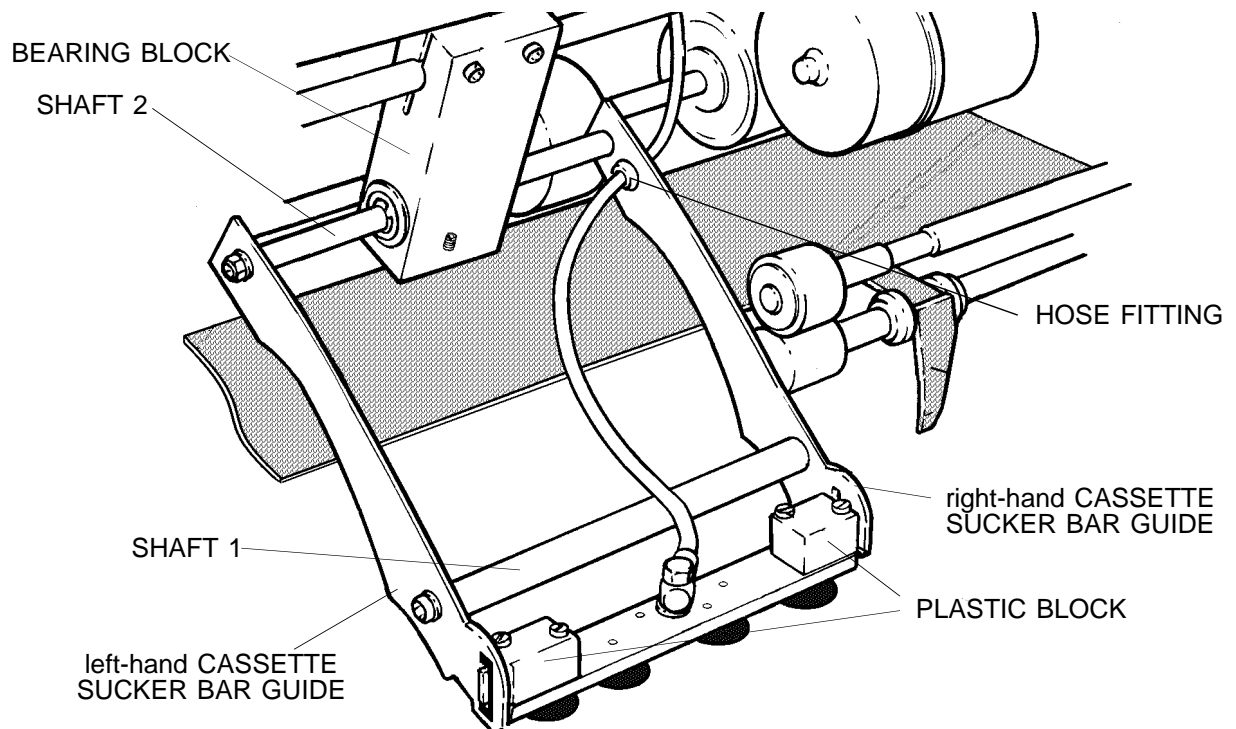

figure 4
- 12.** Disconnect both HOSES from the HOSE FITTING. See figure 4 on the next page.
- 13.** Take out the SCREWS from the PLASTIC BLOCKS left/right of the CASSETTE SUCKER BAR. Keep the SCREWS and discard the BLOCKS. See figure 4.
- 14.** Take out SHAFT 1. See figure 4. Discard SHAFT 1 with SCREWS and WASHERS.